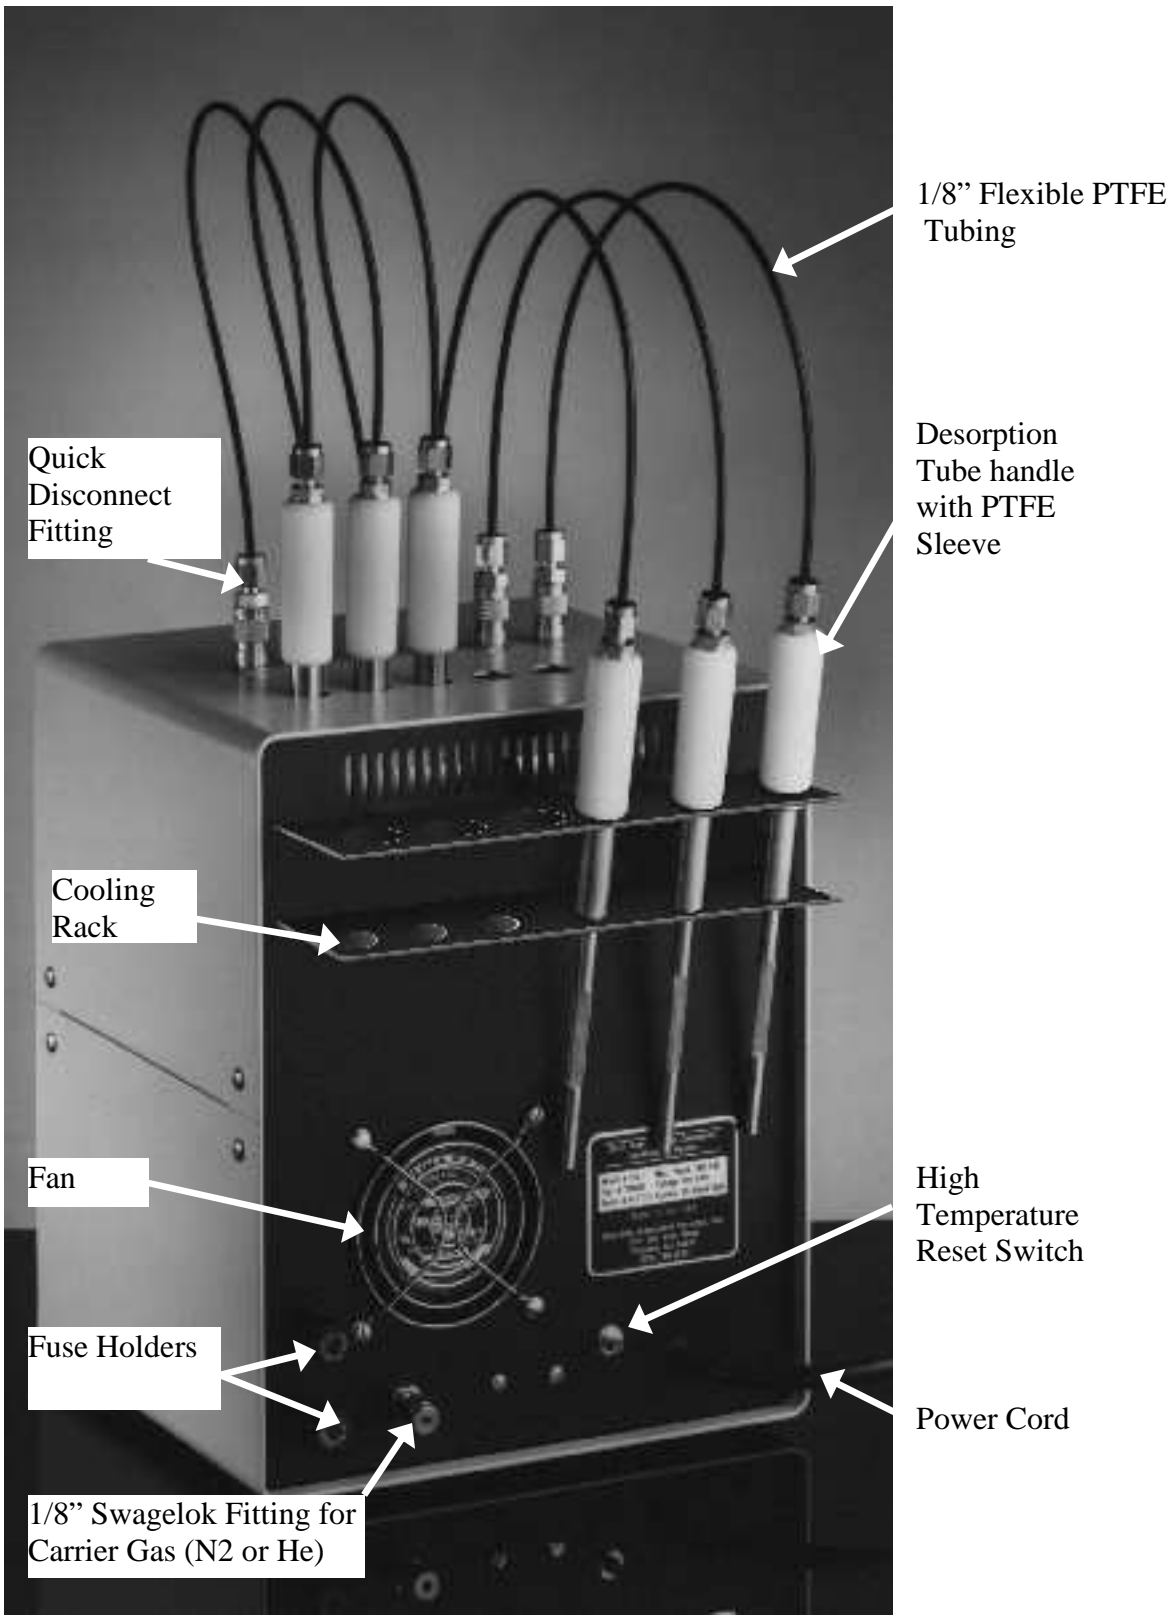
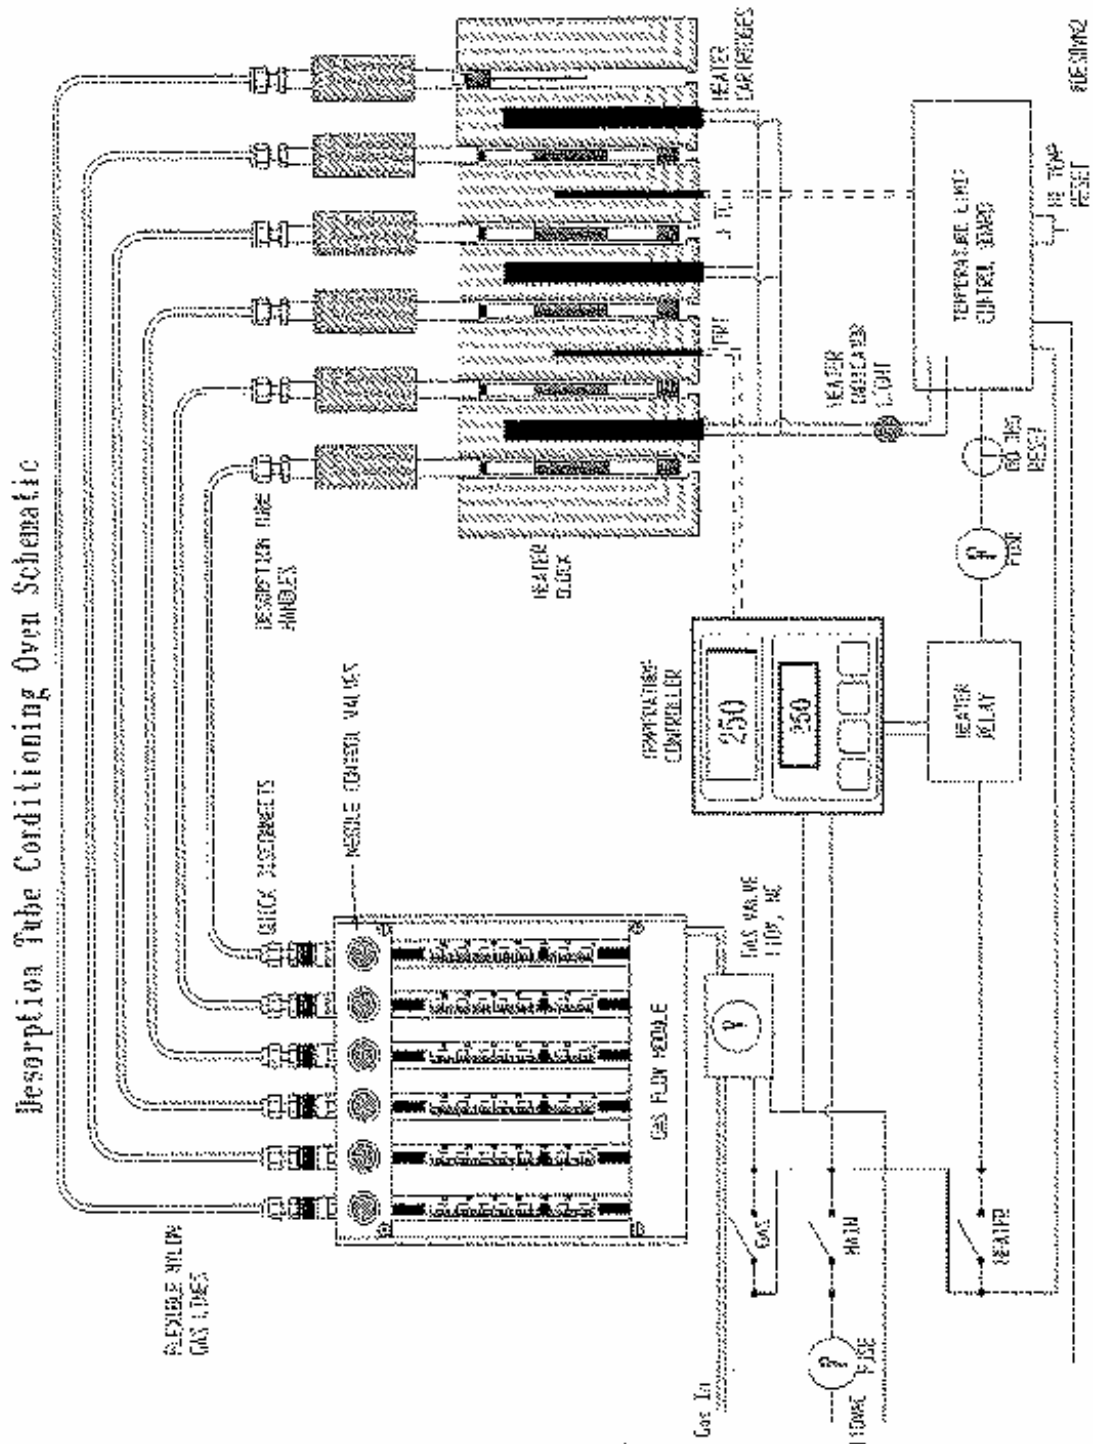

Figure 1-3 – Desorption Tube Conditioning Oven – Rear View
Figure 1-5 – Desorption Tube Conditioning Oven Schematic
The self contained system includes six adjustable bubble rotameters with flow ranges of 0 to 50 ml/min, one for each of the tubes or needles to be conditioned. The recommended flow rate is 20 ml/min. Flow meter calibration data for air and helium are listed in Table I. Each of the flows through the tubes can be independently controlled or flow turned off to that port via a high precision metering valve. A single electrically operated solenoid valve turns the gas flow off or on to all the ports via the Gas Switch on the front panel. The quick disconnect fittings on the top of the Conditioning Oven turn the flow off to individual gas flow lines when disconnected (Figure 1-5).
B. Rear Panel Description (Figure 1-3)
The Desorption Tube Conditioning Oven schematic (Figure 1-5) pictorially represents the overall operation of the system including the gas flow and heater circuits. A 110 volt outlet is required, and 10 amps provides the total electric power required for system operation.
The self contained system includes six adjustable bubble rotameters with flow ranges of 0 to 50 ml/min, one for each of the tubes or needle to be conditioned. Each of the flows through the tubes can be independently controlled via a microneedle valve and the flow turned off to that port if no flow is required. A single electrically operated solenoid valve (v) turns the gas flow off or on to all the ports via the Gas Switch on the front panel (Figure 1-5).
On top of the Conditioning Oven six quick disconnects connect to 1/8" flexible PTFE tubing to provide gas flow through the desorption tubes and needles during conditioning. When a quick disconnect is removed the gas flow is automatically closed to that port. By providing gas flow from a carrier gas such as high purity nitrogen or helium through the desorption tubes and needles while conditioning, it can be assured that no oxygen enters the desorption tubes which could destroy the adsorbent material. Impurities from the inside of the desorption tubes and needles are flushed from the interior surface of these parts. A single 1/8" fitting on the back of the Conditioning System is provided for the attachment of the carrier gas from the source (Figure 1-5 - (Gas in)).
A high temperature limit control board with an external high temperature reset switch (Figure 1-3 and Figure 1-5 - Hi temp reset) prevents the heater block temperature from exceeding 350° C. If the block temperature exceeds 350° C, the external reset switch will automatically open the power circuitry to the heater cartridges. Power cannot be restored to the heater cartridges until the heater blocks are allowed to cool and the external reset switch is manually reset (Figure 1-5). Note: Do not exceed 350° C for the Conditioning Oven heater blocks. Higher temperatures will damage internal circuitry and create a potential meltdown and electrical hazard.